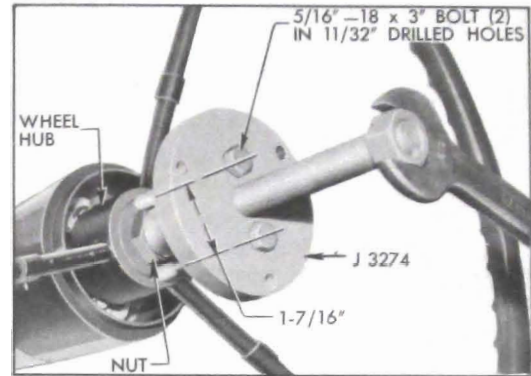

Figure 8-6—Removing Steering Wheel with Puller J 3274
Intermediate Rod Plug Adjustments	See fig. 8-6
4. Apply Puller J 3274 and pull wheel back to nut. See figure 8-6. **NOTE:** If wheel hub is very tight on shaft, apply a moderate strain with puller then tap end of puller screw to break hub loose from shaft without distorting wheel hub. Remove puller, nut, and steering wheel.